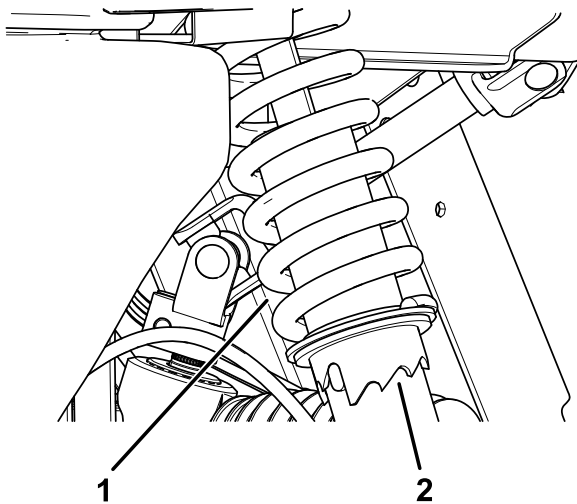

Figure 46
1. Using Toro Tool No. 6010, rotate the collar on the shock absorber to change the spring pre-load (Figure 46).